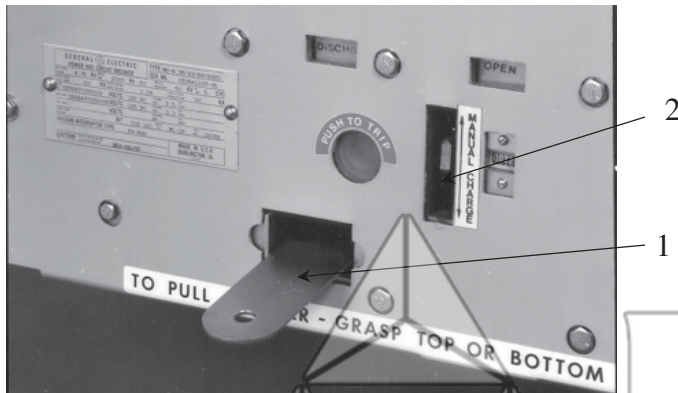

Figure 5 Gag plate
Insert the closing spring gag plate (item 1, Figure 5) by opening the closing spring gag hole cover and inserting the tip of the gag plate between the end of the spring and the spring guide and engaging the detentes on the gag plate into the slots in the closing spring guide. Note that when the closing spring guide is charged for gagging, an interference angle is exposed on the left side of the breaker (item 3, Figure 19). With the closing spring in the gagged position, this angle will provide interference preventing use of the lift truck and racking of the breaker element. No attempt should be made to alter, modify or otherwise make inoperative this safety feature. With the gag plate in position, depress the manual close button. This action will partially discharge the closing